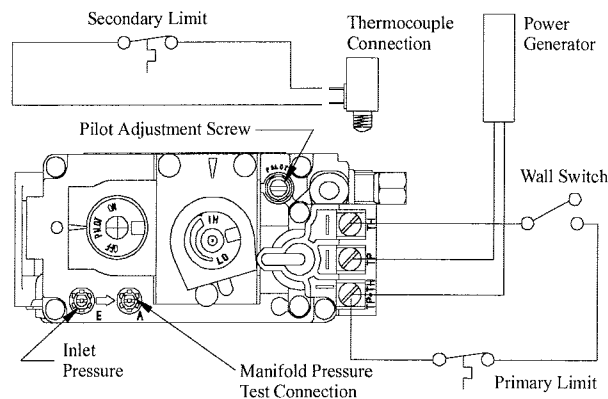

Figure 25. SIT 820 gas valve.
1. Remove Pilot Adjustment Cap. (See figure 25.)
Pilot won't ignite	Disconnect remote wires and try to light pilot. If pilot now works, remote connections are faulty. Check gas valve wiring diagram (figure 25).
Main burner will not light	<ol style="list-style-type: none"> 1. Check wiring (see figure 25) 2. Check wall switch for proper connection. 3. Check pilot burner. If extinguished: <ol style="list-style-type: none"> a. Allow fireplace to cool, then try to relight. b. If condition persists, call a qualified service person.